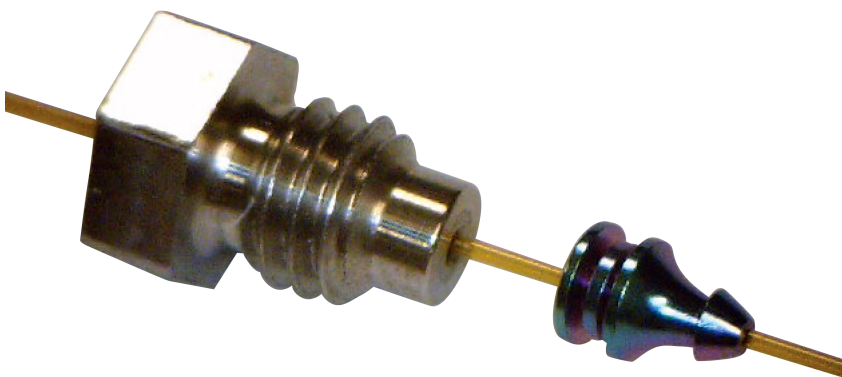

Figure 12. Ferrule swaged to column and internal nut
7. Using the 1/4-inch open-ended wrench, turn the internal nut an additional 15 to 20 degrees clockwise to assure the ferrule is properly swaged onto the column. See Figure 12.